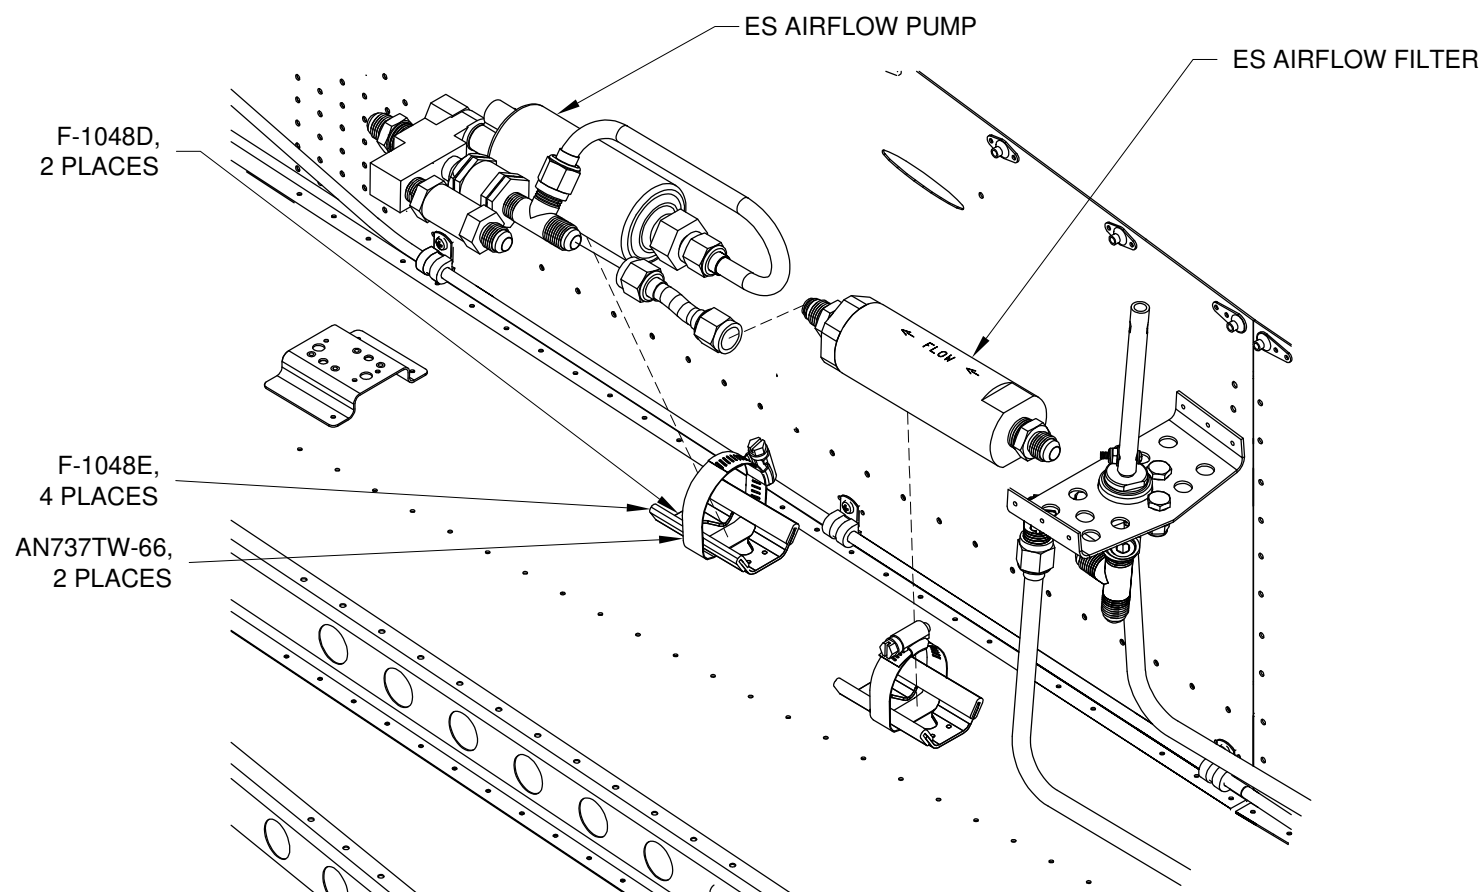

FIGURE 2: FILTER AND PUMP INSTALLATION
Step 2: Place the F-1048E Fuel Cradle Pads over the flanges of both F-1048D Fuel Filter Brackets. See Figure 2.
Step 3: Temporarily center the cylindrical portion of the ES AIRFLOW FUEL PUMP and the ES AIRFLOW FILTER on their respective F-1048D Fuel Filter Brackets. Create a fuel line from ATO-035X3/8 that will connect the filter to the pump. Place a AN818-6D Nut and AN819-6D Sleeve on each end of the fuel line then flare the ends (see Section 5P). Connect the fuel line to both the filter and the pump (check that the filter flow direction arrow is pointing away from the VA-178G Fuel Valve and towards the pump). See Figure 2.
Step 4: Insert AN737TW-66 Hose Clamps trough the slots in the F-1048D Fuel Filter Brackets. Insert the fuel line, ES AIRFLOW FUEL PUMP and FILTER subassembly into the fuel filter brackets as shown in Figure 2. Tighten the hose clamps.